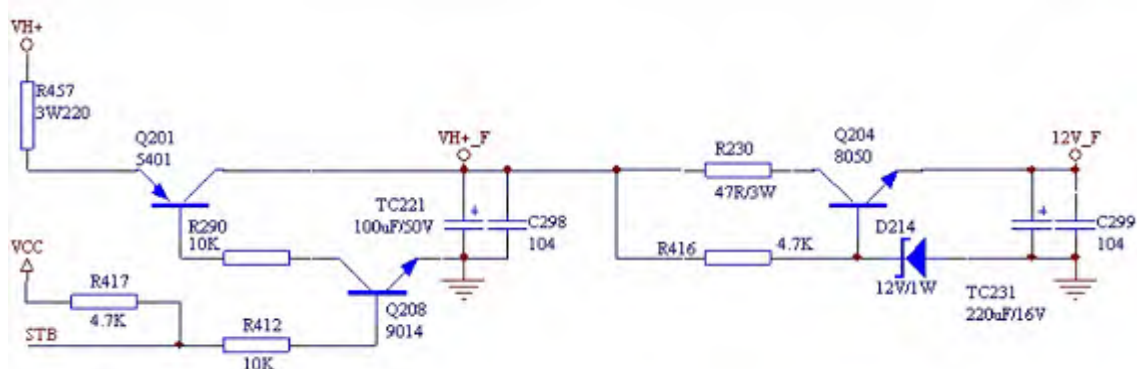

Figure 3.2.18.1 Fan switch circuit diagram
1. Fan switch circuit is shown as the following figure 3.2.18.1: